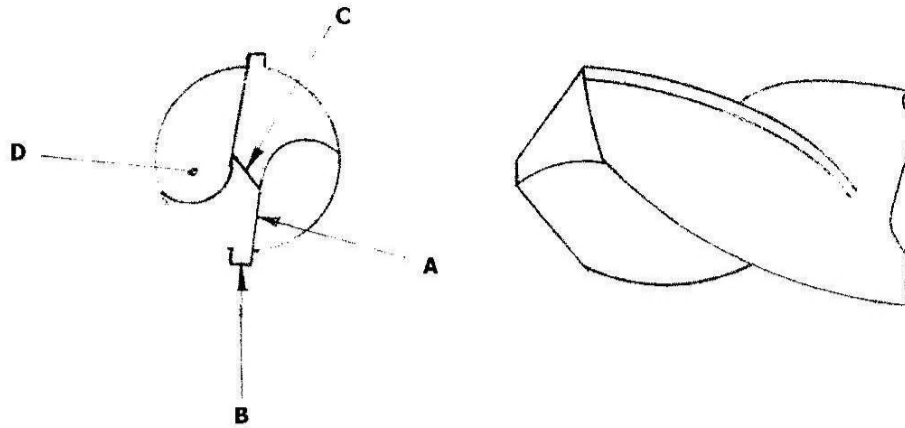

Figure 2
- (a) (i) **Figure 2** shows the cutting end of a twist drill. Name the parts of the drill **A**, **B**, **C** and **D**. [4]